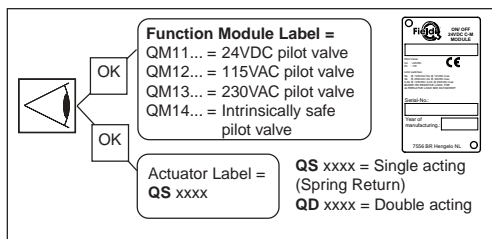

Fig. 2 Identification
- \* Check the module label for the correct execution (see fig. 2)
- \* Check the type of actuator: single or double acting (see fig. 2).